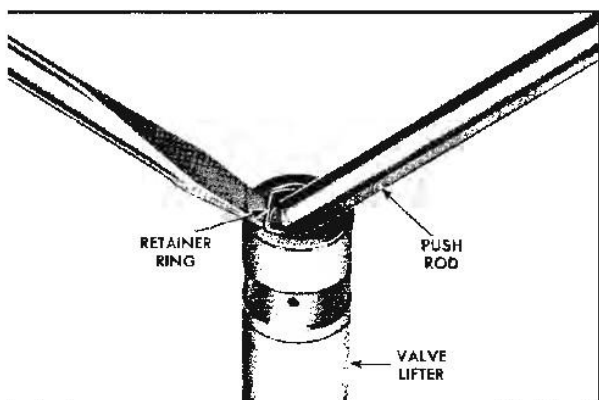

Fig. 6-21 Removing Push Rod Seat Retaining Ring
1. Remove push rod seat retainer ring by holding seat down with push rod while dislodging spring from lifter body with a pointed tool (Fig. 6-21). *NOTE: It may be necessary to unseat lifter ball, using plunger unloader J-5097, before plunger can be pushed down.*